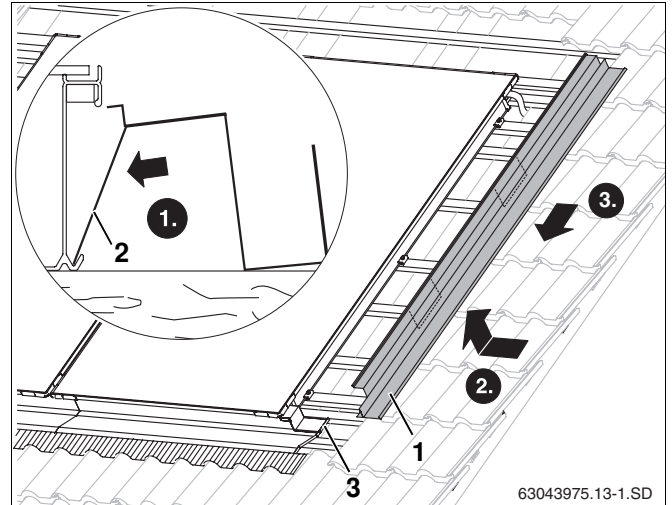

Fig. 49 Fitting the side facing collector on the right
- Place the mounting plates (Fig. 49, **Item 2**) into the lower edge of the collector.
- Place the edge of the right and left side facing collectors (Fig. 49, **Item 1**) up into the recessed grip on the collector and push in over the lower facing collector.
- Press the fold overlap on both collectorcollectors together to fix in place (Fig. 49, **Item 3**).